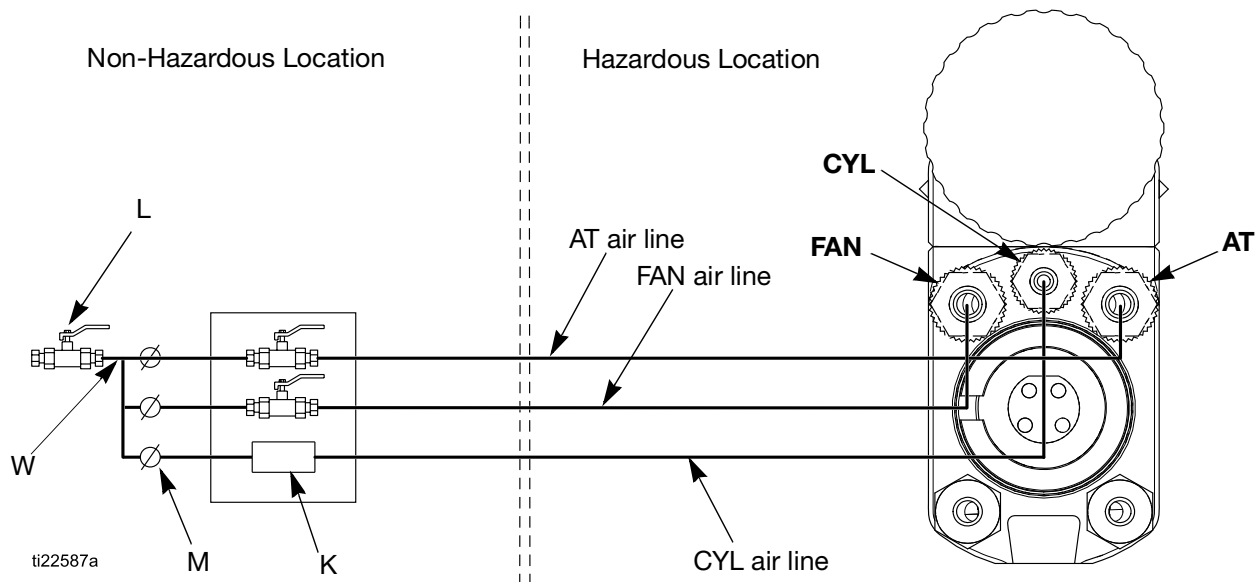

FIG. 11 Air Line Schematic
1. Install a bleed-type air valve (L) on the main (W), fan (FAN), and atomization (AT) air lines to shut off all air to the gun. See FIG. 11.
1. Connect the air lines as shown in FIG. 11, page 16.
Connect the air lines as shown in FIG. 11, page 16.